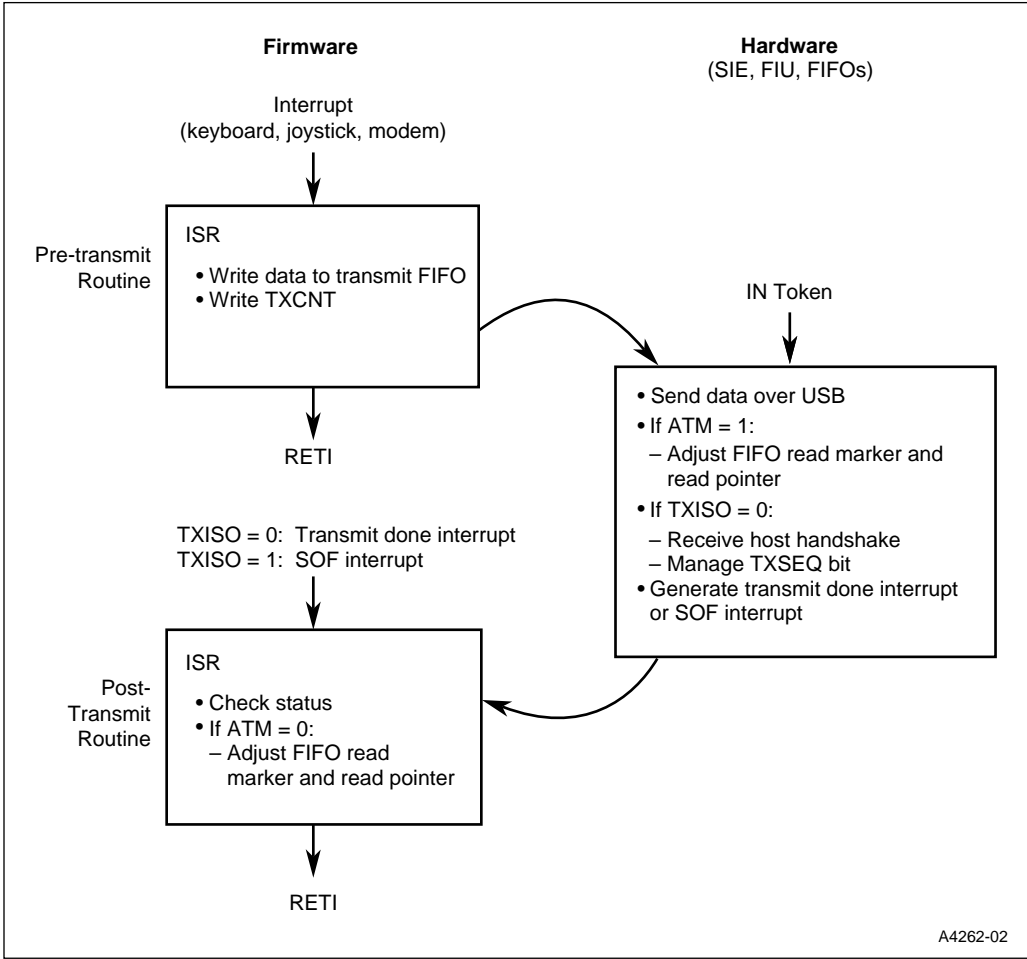

Figure 8-2. High-level View of Transmit Operations
These steps are depicted in a high-level view of transmit operations (Figure 8-2). The pre-transmit and post-transmit operations are executed by the two firmware routines shown on the left side of the figure. Function interface hardware (right side of the figure) transmits the data packet over the USB line. Details of these operations are described in “Pre-transmit Operations” on page 8-5 and “Post-transmit Operations” on page 8-6.
- The TXISO bit (TXCON.3) determines whether the transmission is for isochronous data (TXISO = 1) or non-isochronous data (TXISO = 0). For non-isochronous data only, the function interface receives a handshake from the host, toggles or does not toggle the sequence bit, and generates a transmission done interrupt (Figure 8-2). Also, for non-isochronous data, the post-transmit routine is an ISR; for isochronous data the post-transmit routine is an ISR initiated by an SOF token.